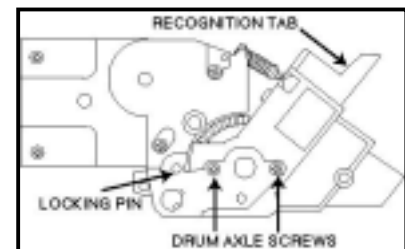

Figure 3
2. Using a jewelers screwdriver, push in the two locking pins on each side of the cartridge (Figs. 3 & 4). Separates the two cartridge halves and set the toner hopper aside.
3. Remove the two drum axle screws from each side (Figs. 3 & 4). Remove the OPC and transfer roller making note of their placement in relationship to each other. They must be installed in the same direction to ensure a proper ground. (OPC white gear is the contact gear, the transfer roller has a fixed gear and a floating gear) Set the OPC and transfer roller aside.
7. Be sure that the cartridge recognition tab is not bent or broken off (Fig. 3) or The printer will not recognize the cartridge when installed.